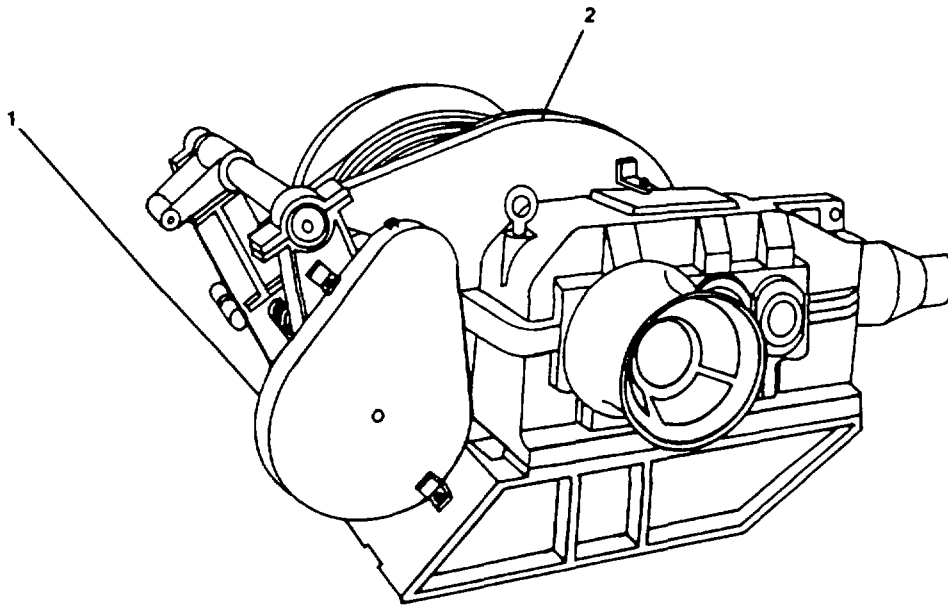

FIGURE 4-5. Inner/Outer Sprocket Guards.
- a. Chain (Levelwind). (FIGURES 4-5 and 4-6)
- (1) Remove attaching hardware securing outer sprocket guard (1, FIGURE 4-5) to winch assembly.
- (2) Remove attaching hardware securing inner sprocket guard (2, FIGURE 4-5) to winch assembly.